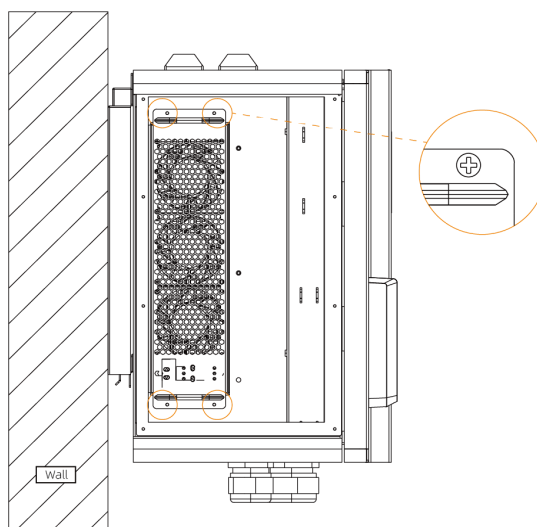

**FIG 14: WALL MOUNTED TOP SCREW FIXATION**
**Step 6:** Screw on the top of the mounting panel, and the mounting panel is completely fixed with the charging box, as shown in FIG. 14.